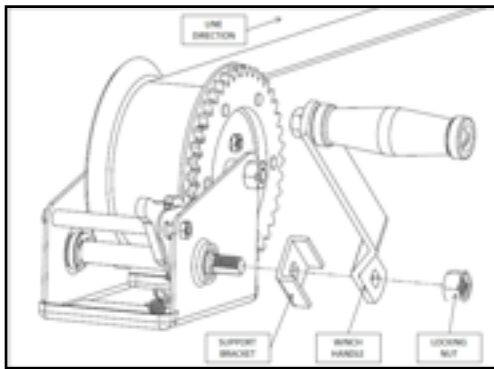

FIGURE 1
1. ASSEMBLE THE WINCH HANDLE AS SHOWN IN FIGURE 1. TIGHTEN LOCKING NUT TO A TORQUE OF 25 FT-LBS. DO NOT OVER TORQUE.
2. MOUNT THE WINCH WITH THREE (3), 3/8" DIAMETER, GRADE-5 HARDWARE (BOLTS AND LOCKNUT OR LOCKWASHER AND NUT) AND TORQUE TO 30FT-LBS. (41N-M).